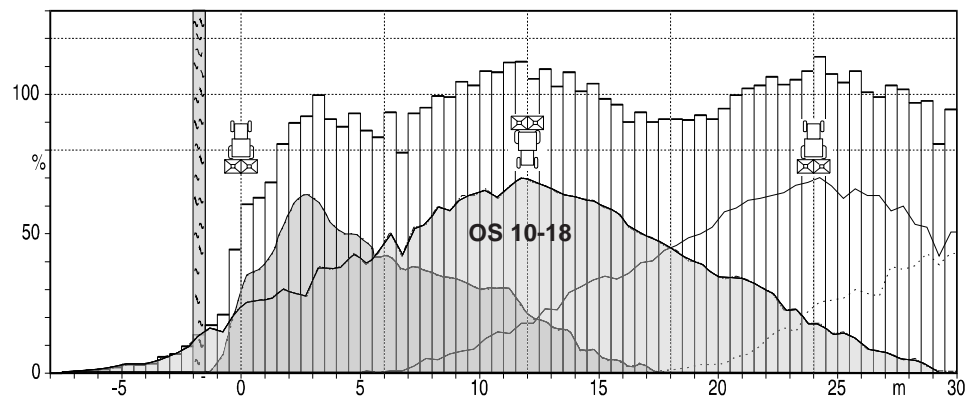

Fig. 4.7
- have created tramlines in spacings of 10 resp. 12 m (Fig. 4.7 and 4.8).
Thus, e. g. boundary spreading (with boundary spread deflector) is recommended for a distance of 1.5 m with 18 m tramline spacing, as no fertiliser is thrown beyond the field's boundary. If, however, with the same spreading vane position (at some kinds of fertiliser, e. g. KAS, it is possible to achieve with the same spreading vane position an optimum lateral distribution at 10-18 m working width) a tramline spacing of 12 m or 10 m is covered, the **OS 10-18** throw considerable fertiliser quantities (approx. 4.5 to 6.5 m) beyond the boundaries when travelling back (see Fig. 4.7).